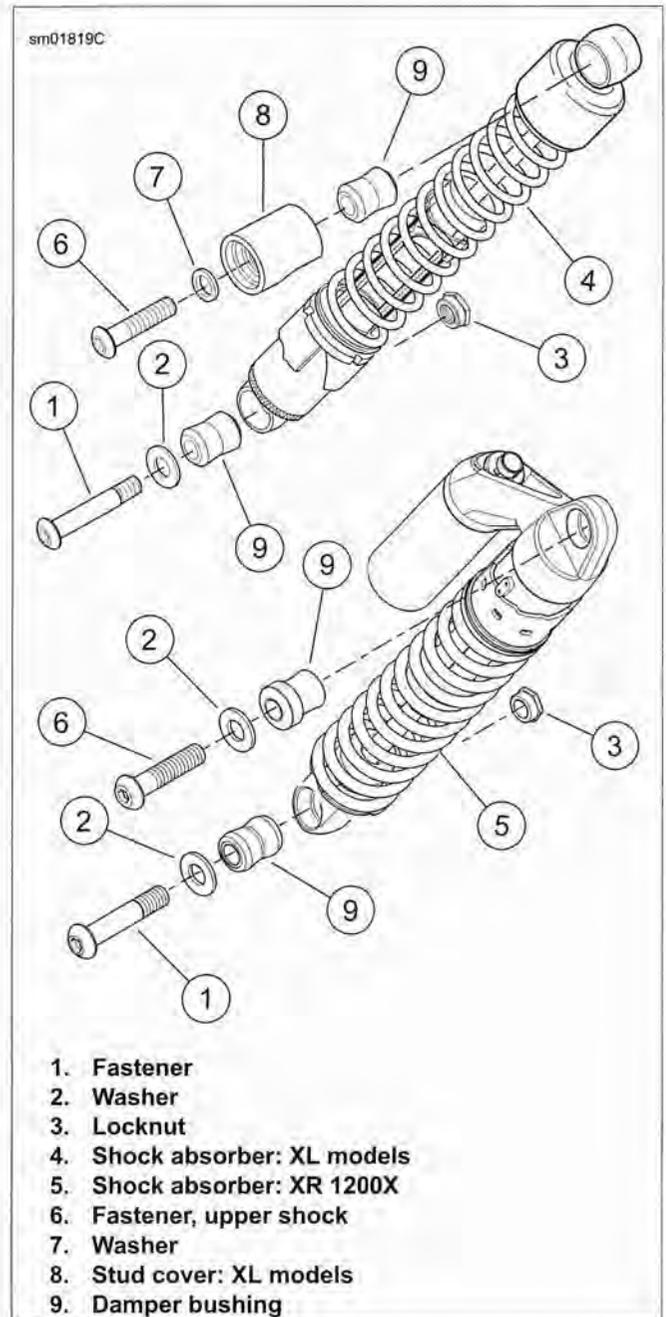

Figure 2-165. Shock AbsorberS: All Models
2. See Figure 2-165. Remove fastener (1), washer (2) and locknut (3) from bottom end of the shock absorber (4 or 5).
3. Remove the fastener (6) and washer (7 or 2) from top end of shock absorber.
4. **XL Models:** Remove the stud cover (8).
1. See Figure 2-165. Assemble the upper fastener stack.
- a. **XL Models:** Assemble the upper fastener (6), the washer (7) and the stud cover (8).
- b. **XR 1200X:** Assemble the upper fastener (6) and the washer (2).
3. Position bottom end of shock absorber against outboard side of rear fork mount. Insert fastener (1) and washer (2) through the damper bushing (9) and the rear fork mount.
4. Thread on the locknut (3).